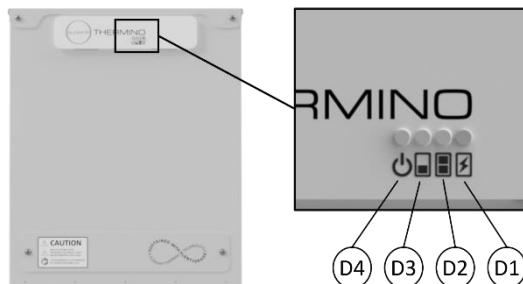

Figure 13 – Thermino xPlus Heat Battery LED operation
6. Check the front of the Heat Battery to ensure that the "power" LED is lit (see Figure 13 & Table 9).
Battery heating element will engage. Please observe if the "heating element" LED is lit (see Figure 13 & Table 9).